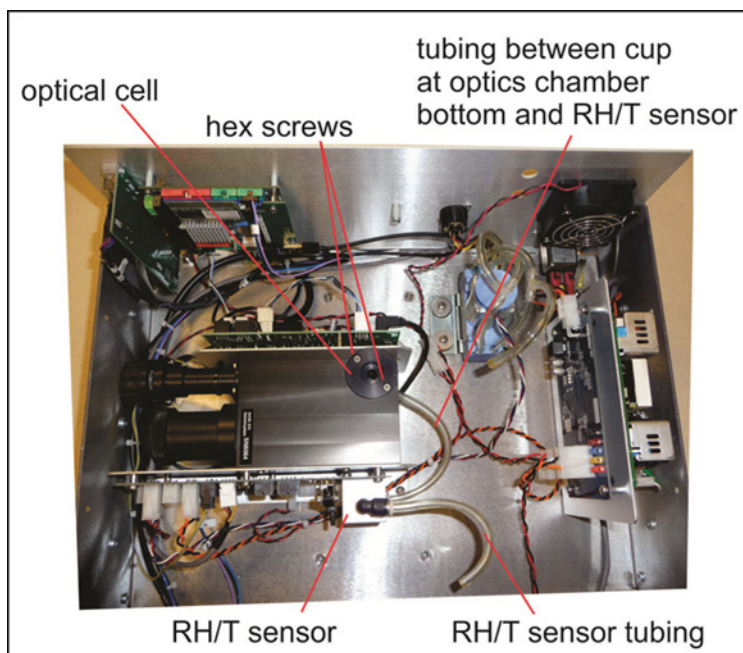

Figure 8. Maintenance: location of the optics chamber and RH/T sensor.
13. Locate the optical cell, the cup at the bottom of optics chamber and its tubing, and the RH/T sensor (Figure 8).